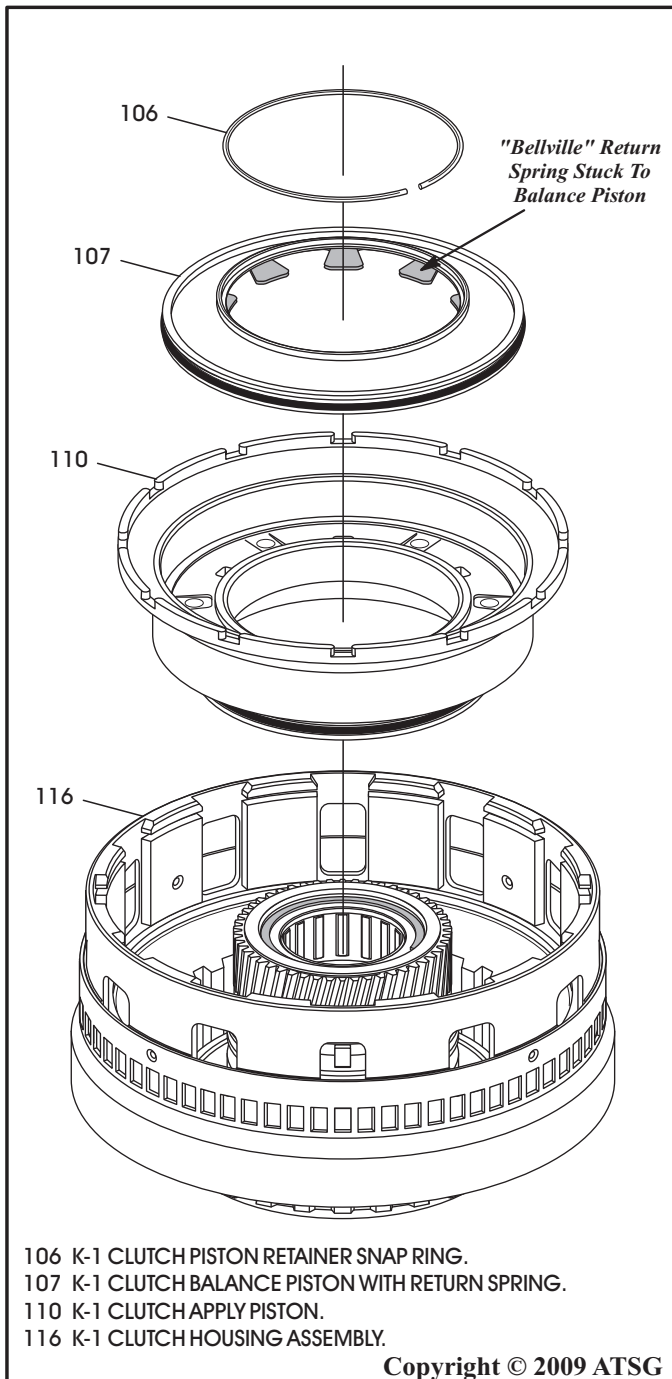

Figure 91
16. Install the K-1 clutch apply piston in housing, as shown in Figure 91, using care so as not to cut the seals.
17. Install the K-1 clutch balance piston, with the "bellville" return spring stuck to the balance piston, as shown in Figure 91.
18. Compress and install the circlip style snap ring, as shown in Figure 91.